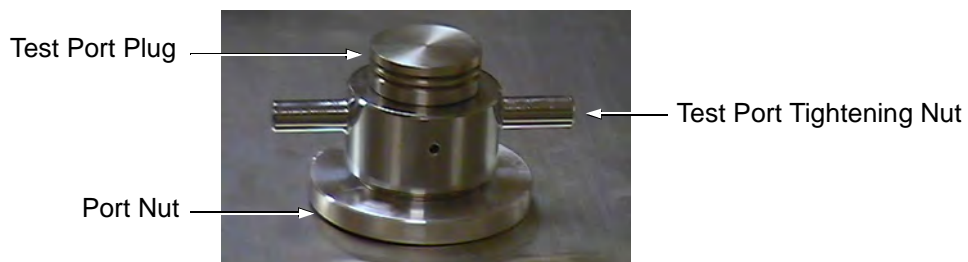

Figure 4-13 The Test Port
1. Turn the test port tightening nut counterclockwise to loosen it (Figure 4-13), then remove the tightening nut and the test port plug.